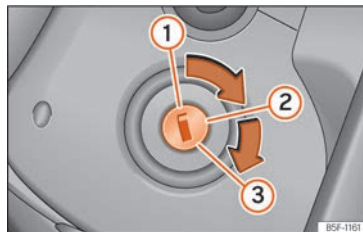

Fig. 85 Ignition lock
- Turn the key to position **»»» Fig. 85 ②**.
- Keep turning the key to position **»»» Fig. 85 ③** without pressing the accelerator.
- Once the engine starts, release the key. When it is released, the key returns to position **②**.
- *Vehicles with ignition locks:* Turn the key to position >>> Fig. 85 .
- *Vehicles with start buttons:* Briefly press the start button >>> Fig. 85.